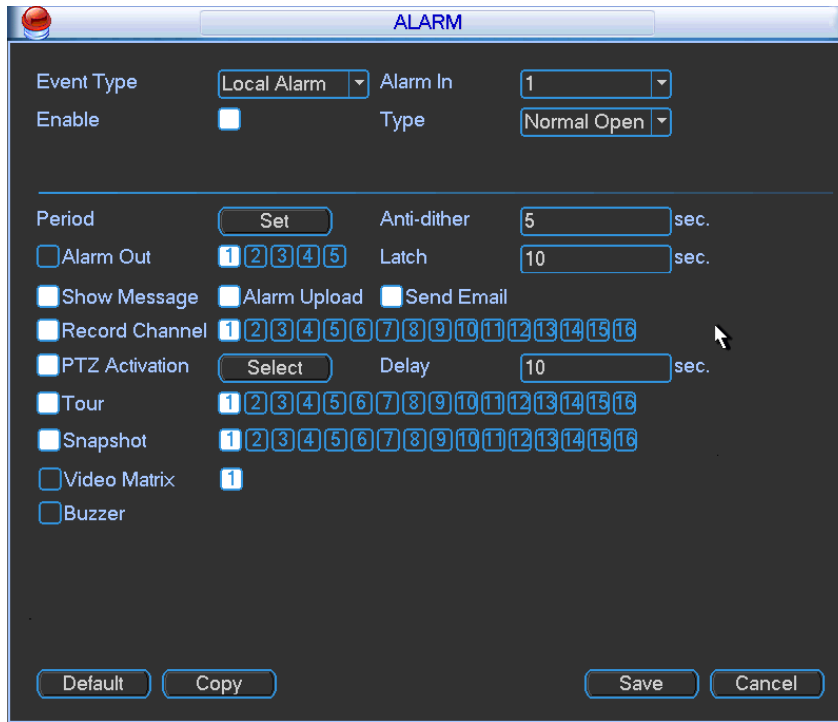
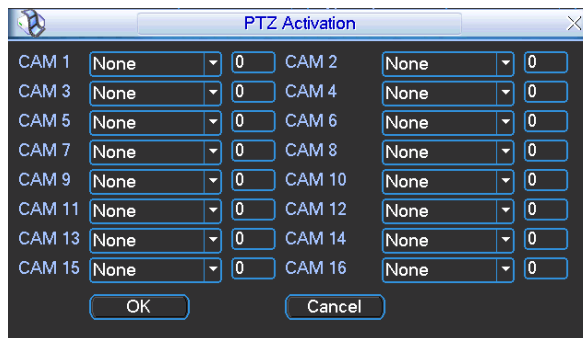

Figure 4-33
Figure 4-34
In the main menu, from Setting to Alarm, you can see alarm setup interface. See Figure 4-33.
Alarm interface is shown as below. See Figure 4-33.
- ✧ In Figure 4-33, click “select” button, you can see an interface is shown as in Figure 4-34. Here you can set the activation operation such as preset tour, pattern and enable.